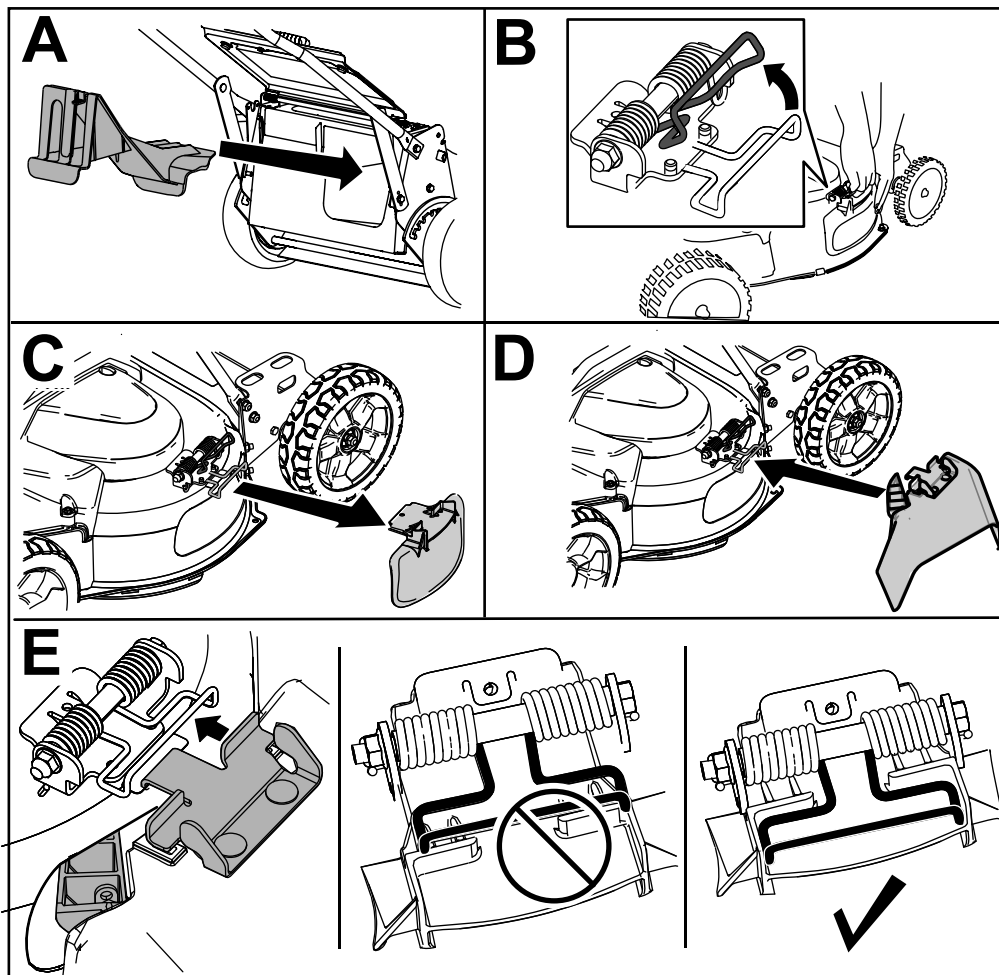

Figure 21
3. Insert the rear-discharge plug (A of Figure 21).
4. Remove the side-discharge deflector by pulling up on the spring that holds the deflector in place and removing the deflector (B and C of Figure 21).
5. Install the side-discharge chute by pulling up on the spring, placing the chute over the opening, and lowering the spring over the tabs on top of the discharge chute (D and E of Figure 21).